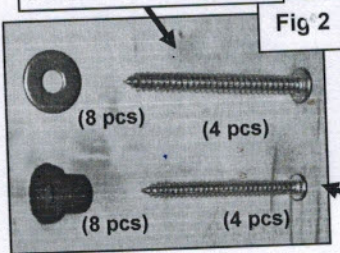

Fig 2
- Line up the tabs on the Taillight Guard with the (4) screw holes. **IMPORTANT:** If required, make minor adjustments to the mounting tabs. **NOTE:** Cover the tabs with masking tape and gently bend into the proper position with pliers or an adjustable wrench.
- Once properly adjusted and aligned, insert the four rubber spacers into the recesses in the taillight lens for the factory screws, (**Figures 2 & 3**).
- Install (2) of the smaller OD #4 X 45mm Sheet Metal Screws and #5 Flat Washers in the (2) inner positions. Use (2) of the larger #5 X 50mm Sheet Metal Screws and #5 Flat Washers in the (2) outer mounting holes. Insert each screw with Flat Washer through the mounting tab, the Rubber Spacer and into the tail light housing, (**Figures 2, 3 & 4**). Do not tighten at this time.